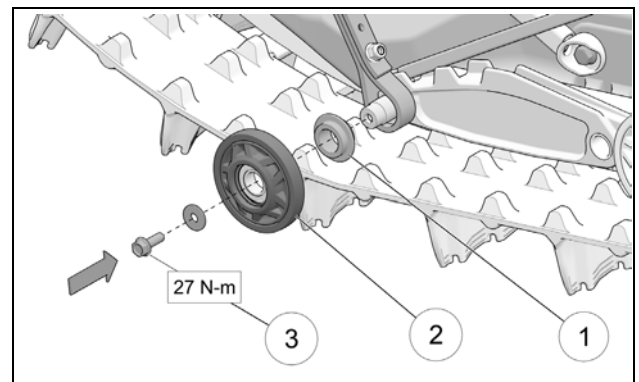

Figure 18
- Re-install spacer (1) and wheel (2) on shaft. Tighten bolt (3) to 27 N-m (20 lb-ft) of torque. See Figure 18.